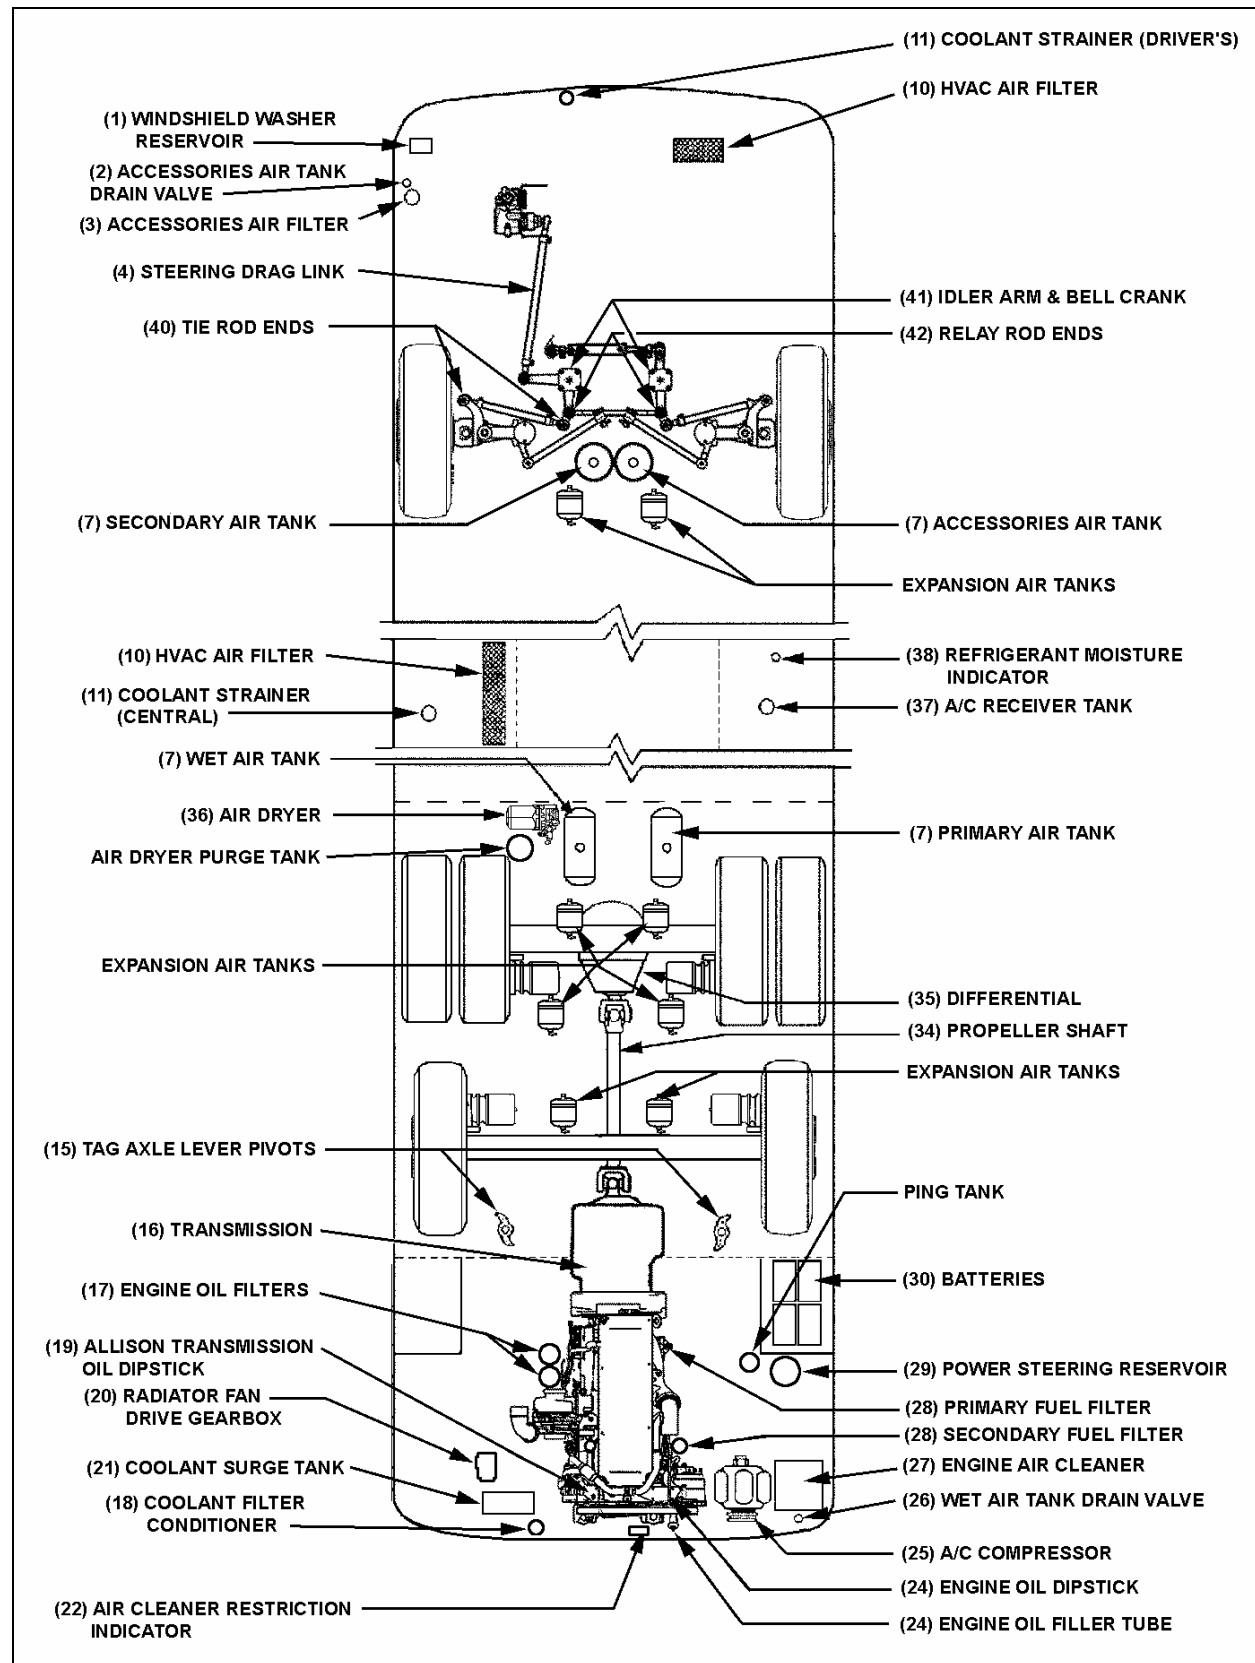

FIGURE 1: LUBRICATION AND SERVICING POINTS ON INDEPENDENT FRONT SUSPENSION VEHICLES
- FIGURE 1: LUBRICATION AND SERVICING POINTS ON INDEPENDENT FRONT SUSPENSION VEHICLES 4